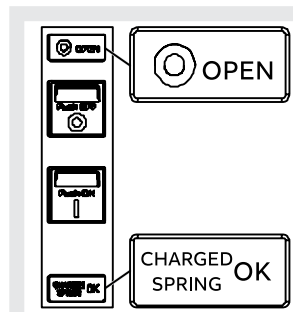

Figure 66
2. Circuit-breaker open with springs charged (see Figure 66).